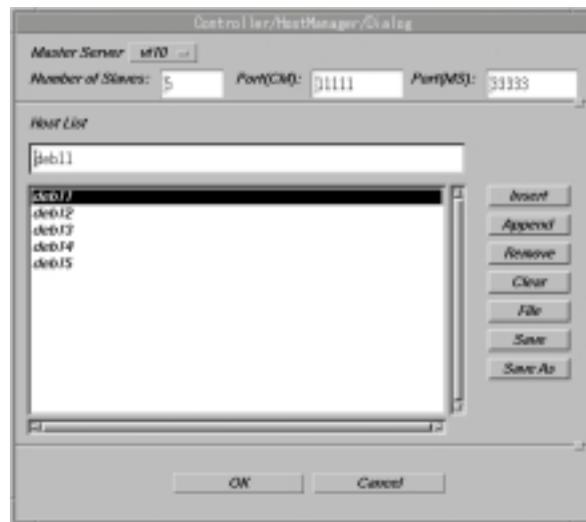

Fig. 6-6. Input of Host Name for Slave
3. Input the host name for Slave in the field **Host List** using the edit buttons on the right side of the dialog box (Fig. 6-6).